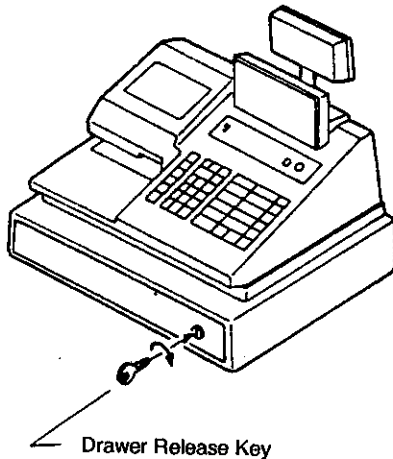

Fig. 1
1. Insert the Drawer Release Key into the drawer release lock and turn the key clockwise. The drawer will then open. (Fig. 1)